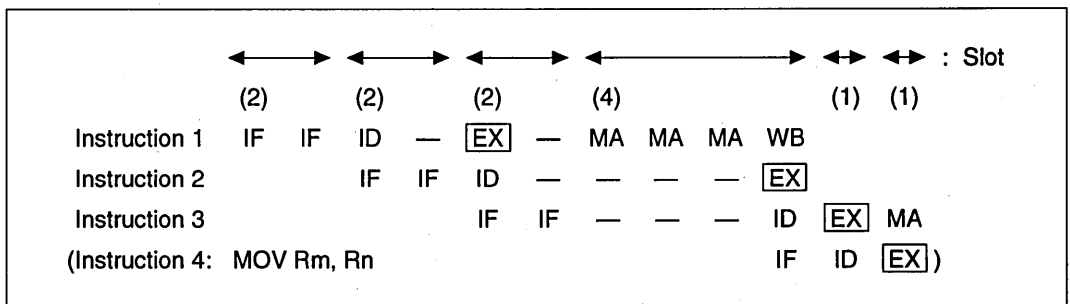

Figure 8.5 How Instruction Execution States Are Counted
For example, in a pipeline flow like that shown in figure 8.5, the EX stage interval between instructions 1 and 2 is five cycles, so the execution time for instruction 1 is five cycles. Since the interval between EX stages for instructions 2 and 3 is one state, the execution time of instruction 2 is one state.
If a program ends with instruction 3, the execution time for instruction 3 should be calculated as the interval between the EX stage of instruction 3 and the EX stage of a hypothetical instruction 4, using an MOV Rm, Rn that follows instruction 3. (In the case of figure 8.5, the execution time of instruction 3 would thus be one cycle.) In this example, the MA of instruction 1 and the IF of instruction 4 are in contention. For operation during the contention between the MA and IF, see section 8.4, Contention Between Instruction Fetch (IF) and Memory Access (MA). The execution time between instructions 1 and 3 in figure 8.5 is seven states (5 + 1 + 1).